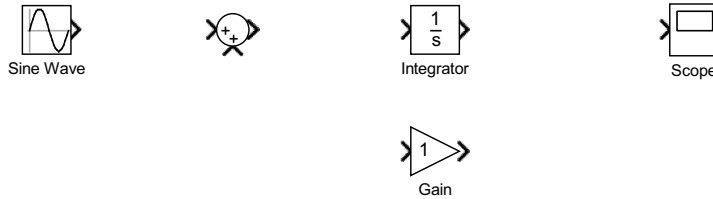

Figure 1.7: Add needed components to the model window.
- Drag needed blocks into the model region [Figure 1.7.]: